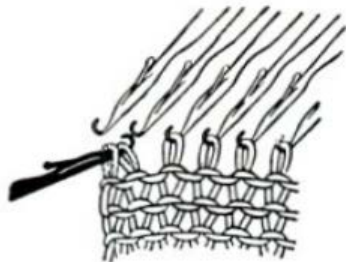

Fig. 72
- a. Using the single transfer needle. transfer the center stitch onto a neighboring needle on either side. (See Fig. 72)